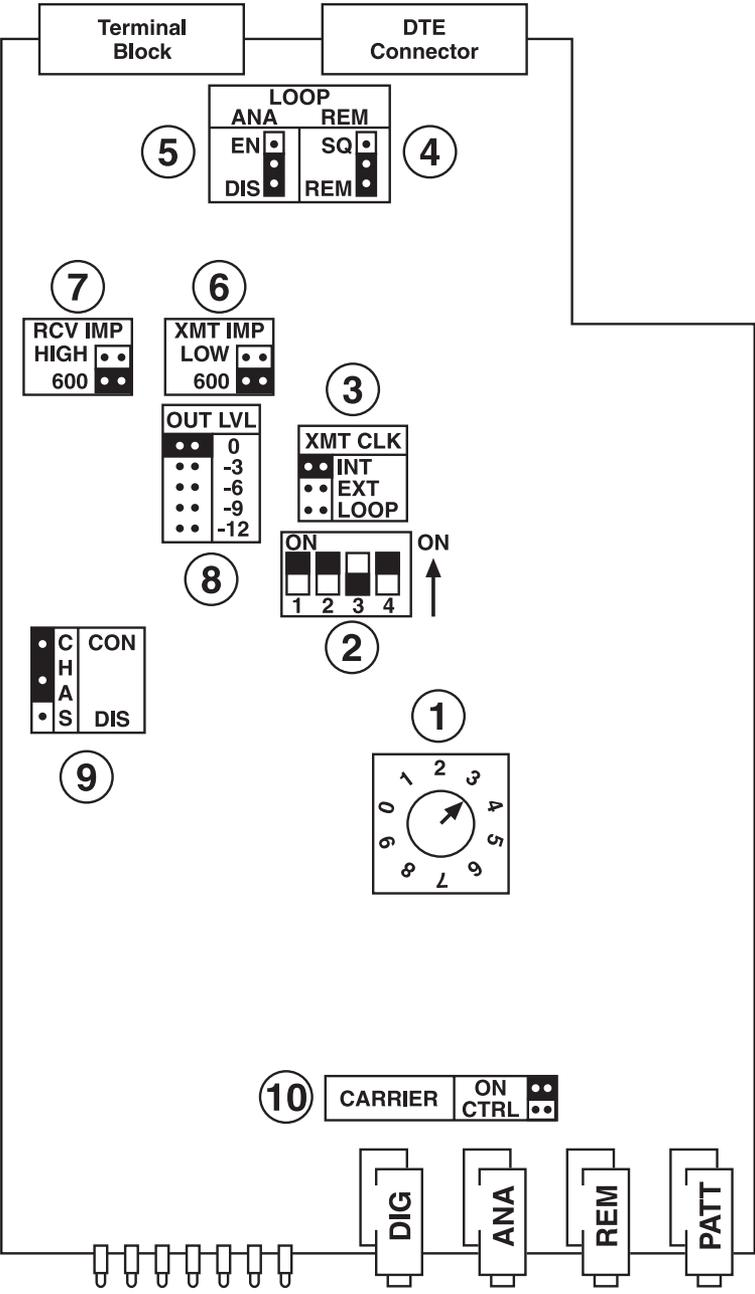

Figure 3-1. The LHM-19.2's circuit board.
3. Adjust the jumpers and switches for the configuration you want. Refer to Figure 3-1 on the next page and Table 3-2 on the pages that follow.